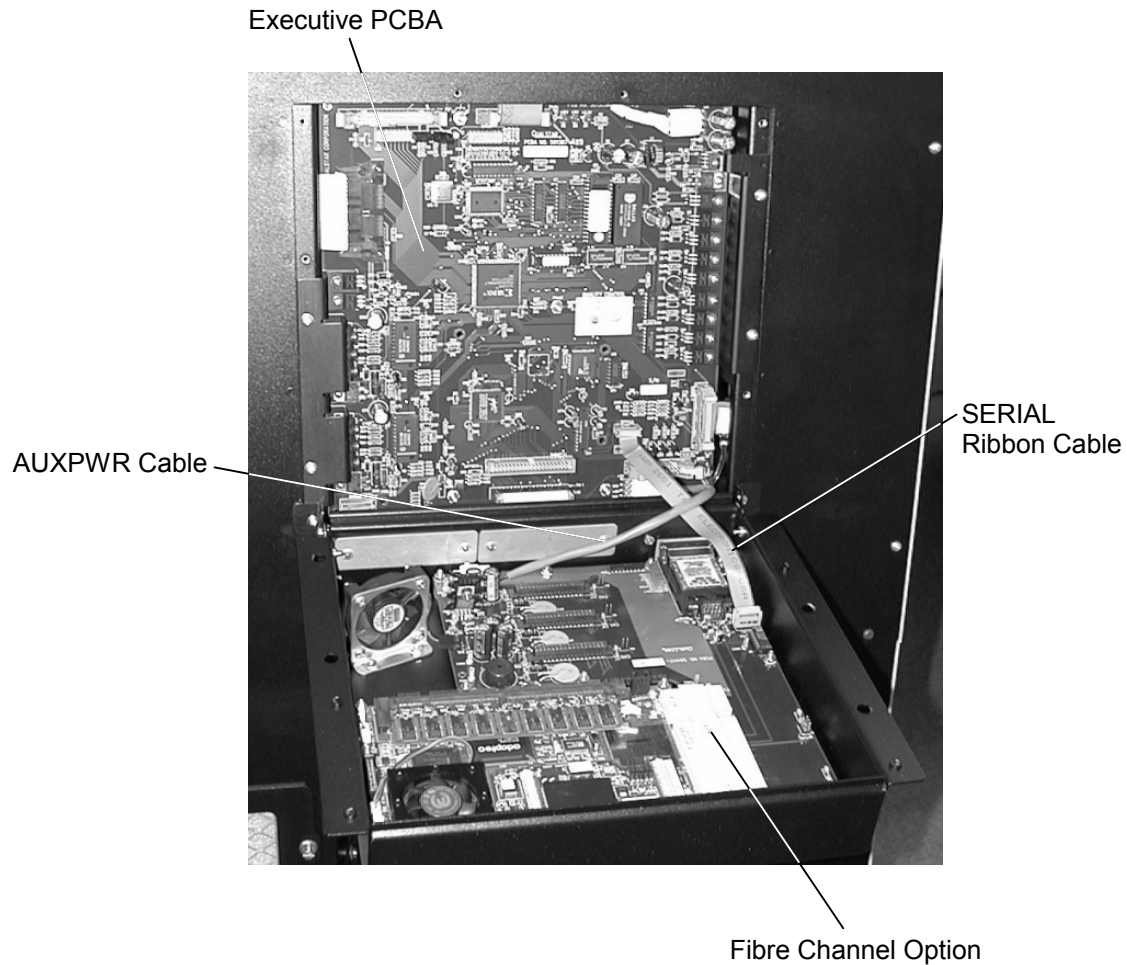
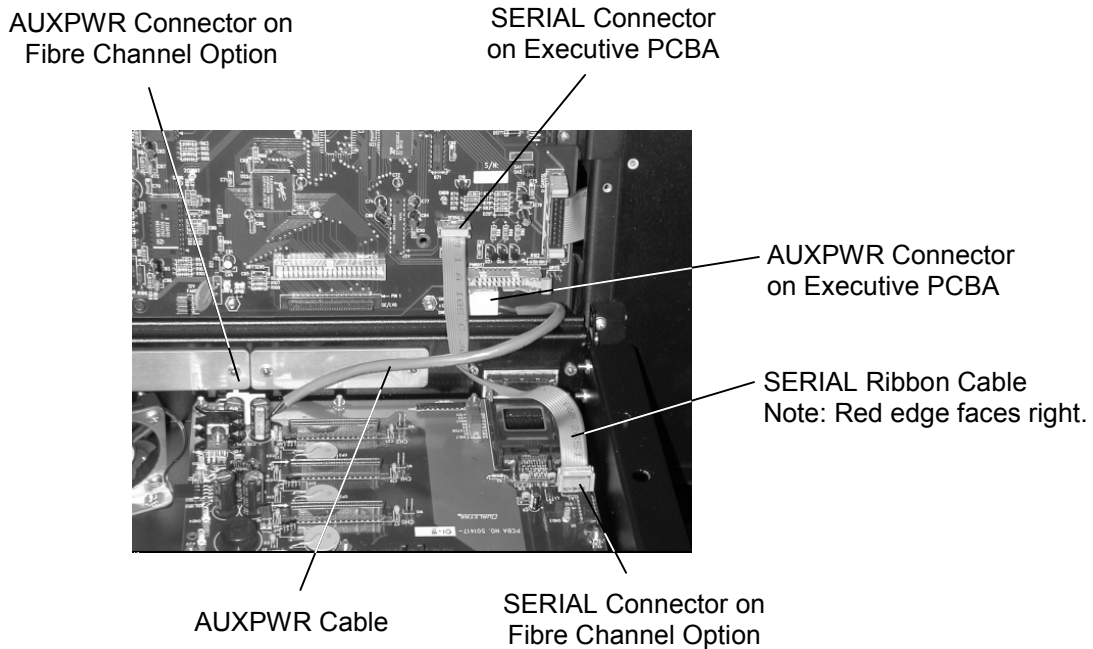

Figure 4-7 Executive PCBA and Fibre Channel Option (Executive III PCBA Shown)
Figure 4-9 Detail of AUXPWR and SERIAL Connections (Executive III PCBA Shown)
8. Connect the AUXPWR cable to the AUXPWR connectors on the Executive PCBA and to the Fibre Channel Option. See Figure 4-7 and Figure 4-9.
10. Make sure that the Red edge of the ribbon cable faces to the right side when the cable is installed. Connect the SERIAL ribbon cable to the SERIAL connector on Executive III PCBA's or to the SERLA connector on Executive IV PCBA's. Route the SERIAL cable under the AUXPWR cable as shown in Figure 4-7 and connect it to the SERIAL connector on the FCO (Figure 4-9).